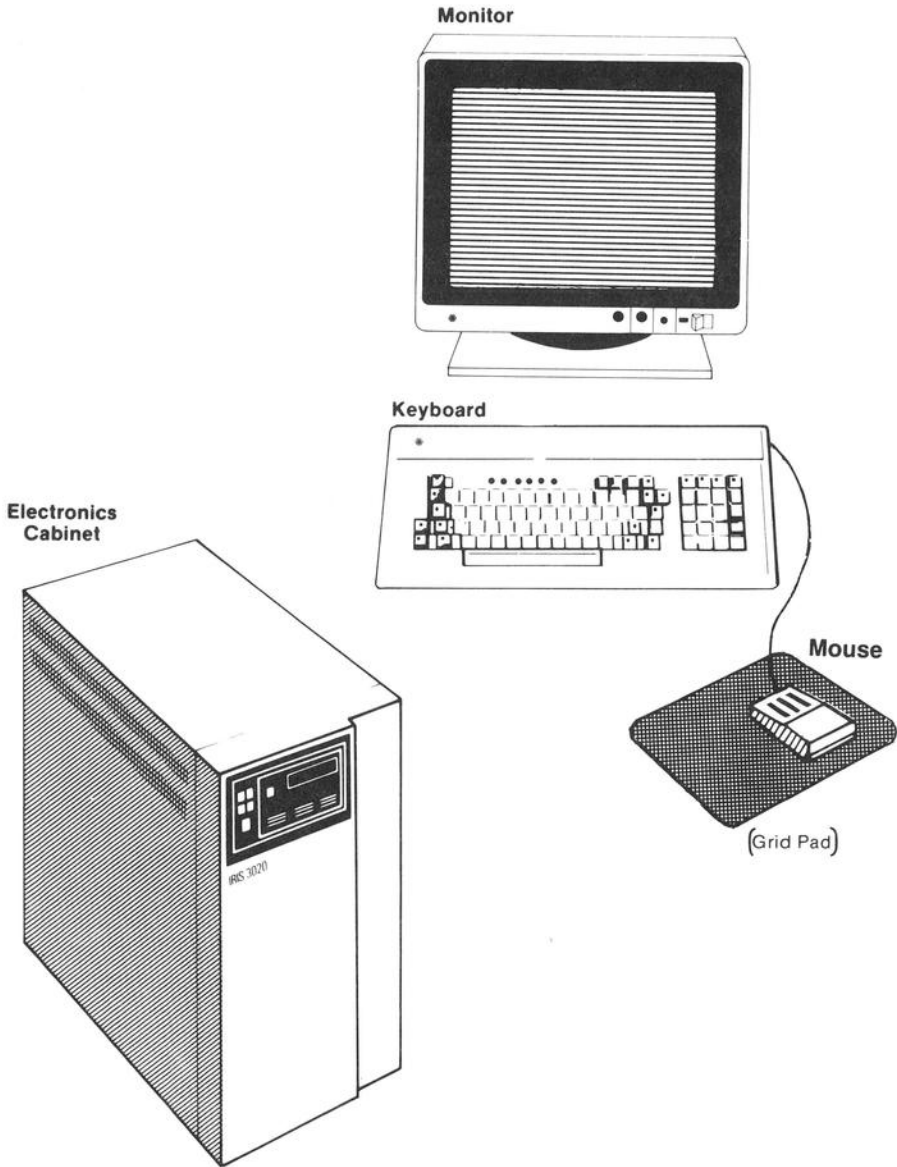
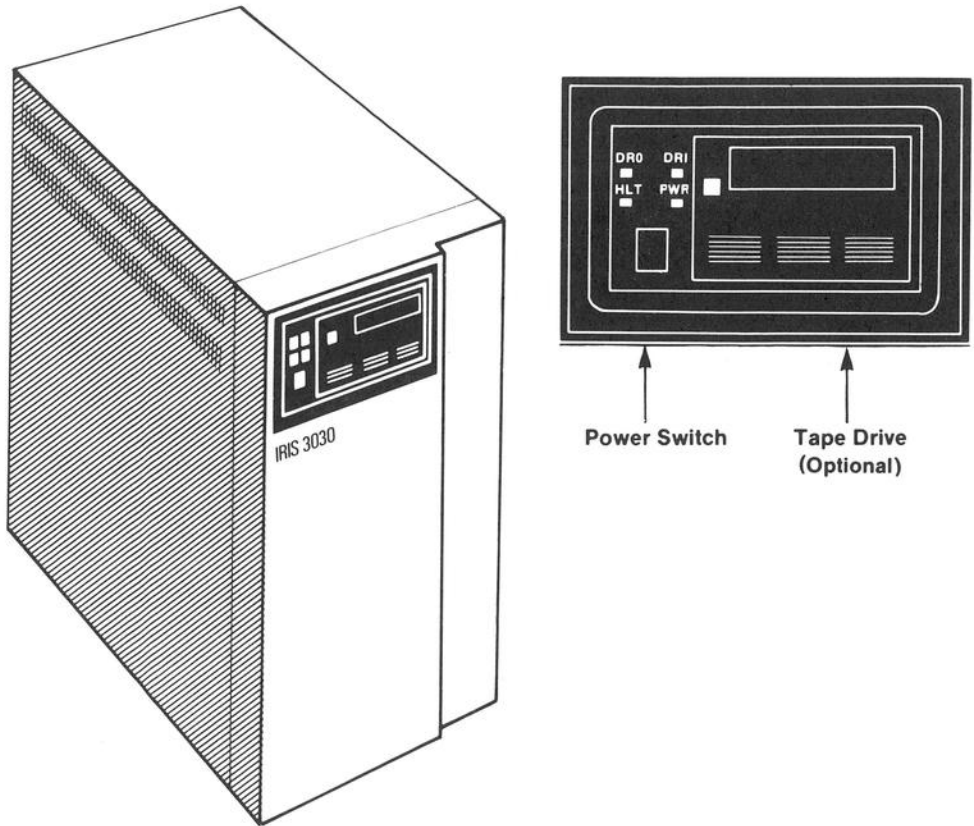
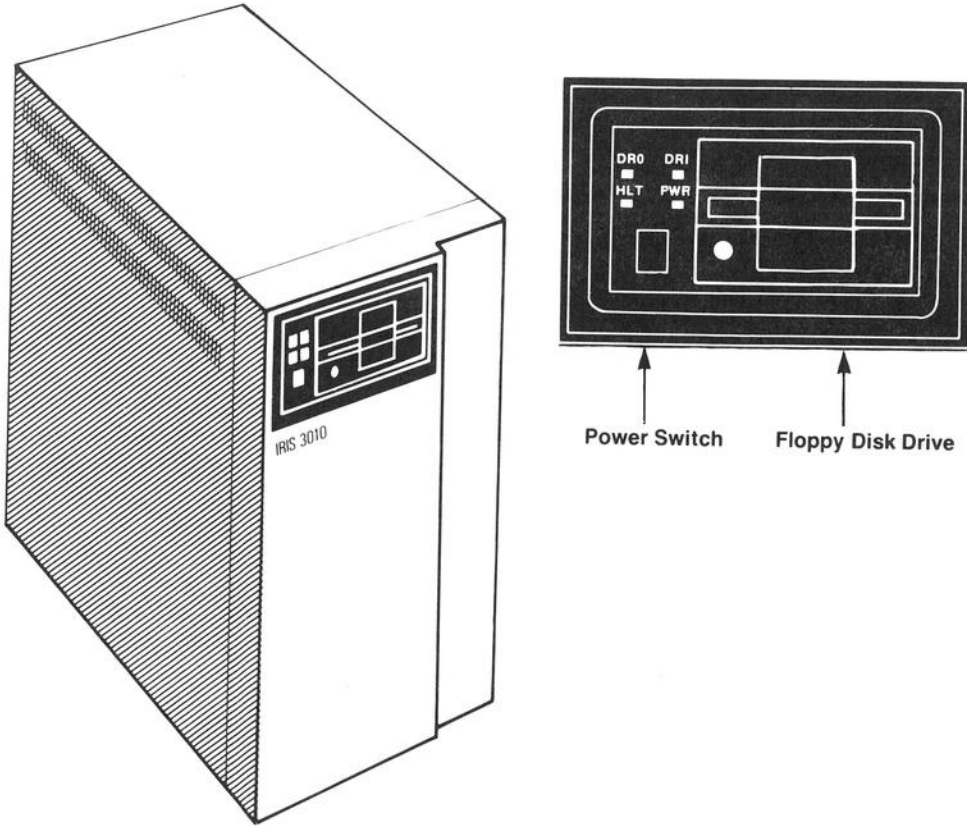

Figure 2-1: IRIS series 3000 System
Figure 2-2: IRIS 3030 Cabinet Front Panel
Figure 2-3: IRIS 3010 Cabinet Front Panel
- The *electronics cabinet* for the standard configuration of the IRIS series 3000 is a floor-standing unit with a 20-slot backplane, a disk drive, and a power supply (see Figure 2-1). The cabinet uses forced-air cooling and is mounted on casters. A quarter-inch cartridge tape drive (internal) or a half-inch streaming tape drive (external) is optional on the IRIS workstation (see Figure 2-2). A floppy disk drive is standard on the IRIS terminal (see Figure 2-3). See Chapter 6 for disk specifications and Chapter 7 for tape specifications.